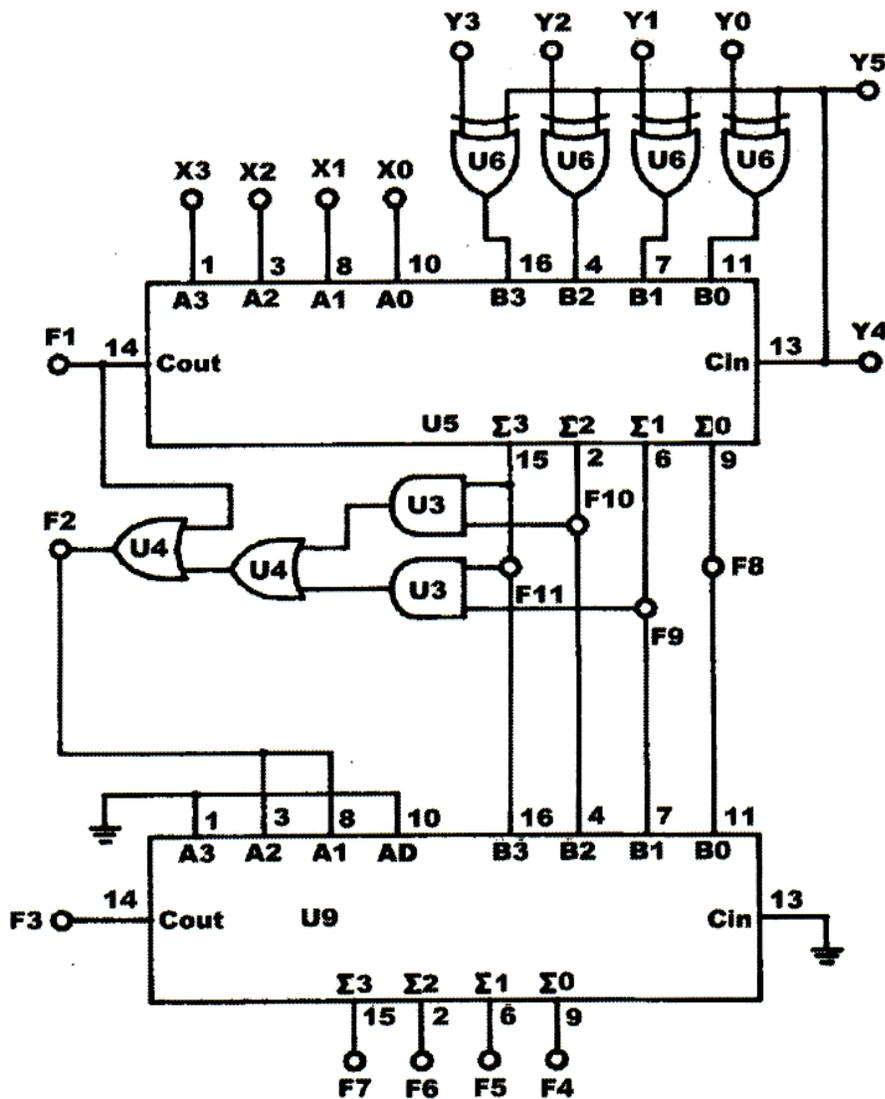

Fig 2-47
2. Connect input X0~ X3 to DIP1.0 ~ 1.3; Y0~ Y3 to DIP2.0 ~ 2.3; Y5 to "0". Fig. 2-47 is the equivalent circuit.